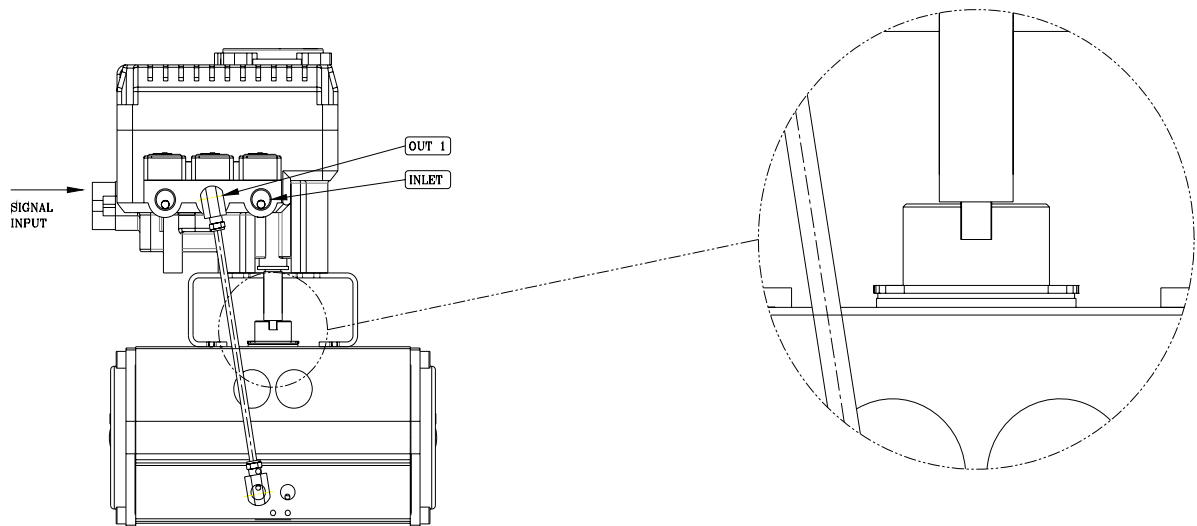

Fig. 3 (RTX – 1000R on NAMUR Shaft)
(1) Standard actuator stem height (H) is 20, 30, or 50mm. After checking "H", assemble with the bracket as shown in **Fig.3 & 4**. For bracket selection refer bracket selection chart in ROTEX positioner catalogue.